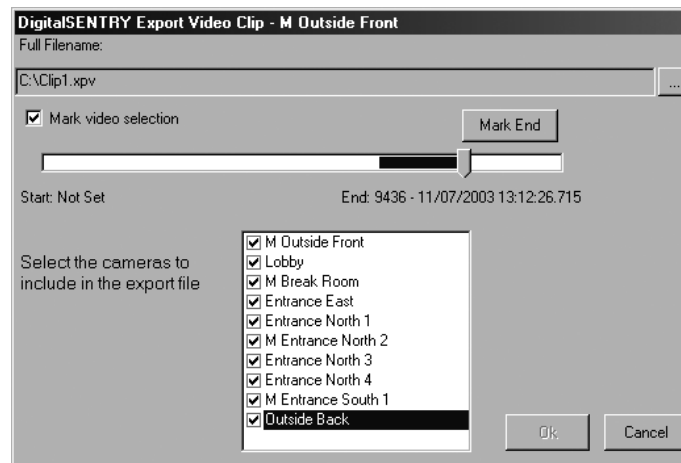

Figure 36. Export Video Clip Window
4. To mark a smaller portion of the video clip for export in EXE or XPV format, move the slider bar to the start of the desired clip, click Mark Start, and drag the slider bar to the end of the clip (refer to Figure 36). You can also select the cameras to include in the exported file, but you can export video from only one camera at a time when exporting in MPEG or AVI format. Click OK.